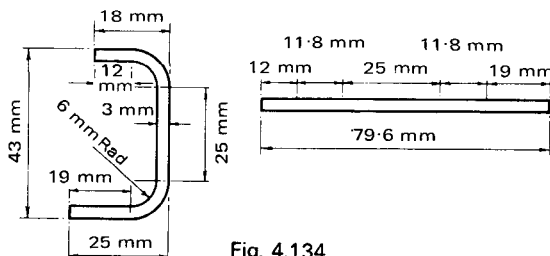

Fig. 4.134
**Example.** Find the width of strip needed to make the section shown in Fig. 4.134 (a).
The width of metal required is shown in Fig. 4.134 (b).